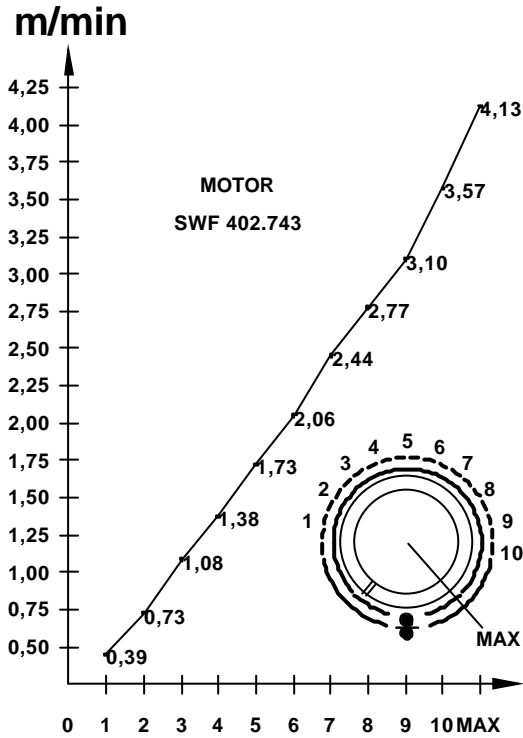

Figure 4
**Figure 4** shows the relationship between the wire speed and the position of the speed control knob. The X-axis shows the knob's position from 1 – 10, and the Y-axis shows the amount of wire the KT-4 will feed at the knob position set.